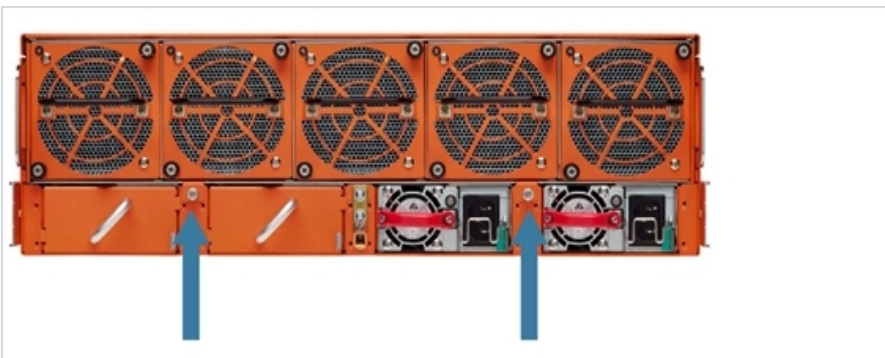

Figure 10: Fan Tray Screw Location on GigaVUE-HC3 Rear
1. Locate the two thumb screws at the bottom of the fan tray as shown in Figure 10: Fan Tray Screw Location on GigaVUE-HC3 Rear on page 79.
5. Tighten the thumb screws on the fan tray, then use a Phillips screwdriver to tighten the screws. Refer to Figure 10: Fan Tray Screw Location on GigaVUE-HC3 Rear on page 79.